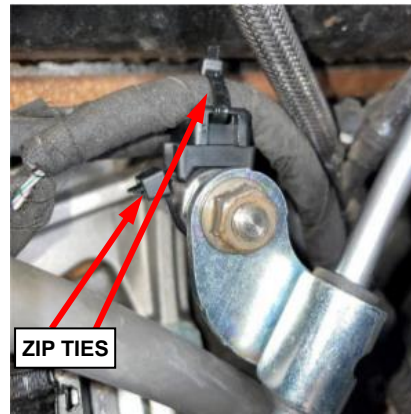

Figure 33 – Swivel Bracket to Fuel Line Standoff
46. Using the provided zip-ties (PN 3062329) attach the swivel bracket to the fuel line standoff and secure the wire harness pig tail to the swivel bracket (Figure 33).